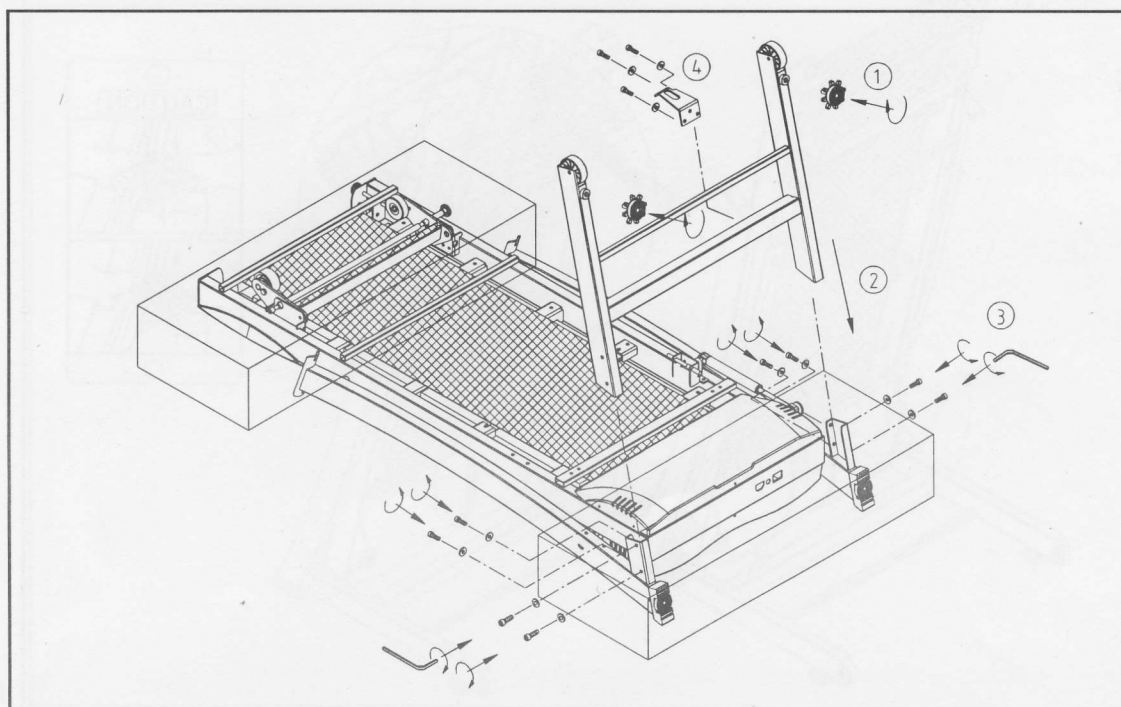

Fig.2
2. Rotating floor level adjustment clockwise to secure. Insert assembled bottom post bracket into proper position of treadmill. Then, attach bolts and washers provided to position without fully tighten. Securely installed mounting brace to bottom post bracket as figure shown. (See Fig. 2)